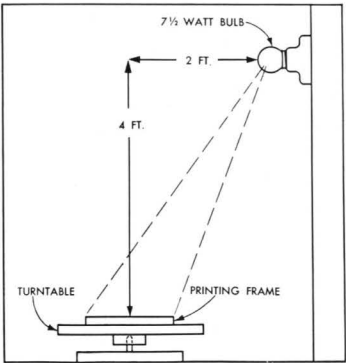

Figure 6—Arrangement of Exposing Light and Printing Frame for Exposure of Unsharp Positive
**Angle of Illumination:** The printing light is placed obliquely as illustrated in Figure 6. This arrangement, in conjunction with the separation between the two emulsions, produces the proper degree of unsharpness in the positive. The light itself is an ordinary  $7\frac{1}{2}$ -watt frosted bulb used without any reflector or housing. *The bulb must be placed at the correct angle* with respect to the center of the printing frame; the proper ratio of the horizontal distance to the vertical distance is 1 to 2. The distances shown in the diagram can be increased or decreased to suit individual requirements, providing their ratio is maintained. However, the horizontal distance should in no case be less than the length of the diagonal of the negative. If the distances are too short, the image in the positive will be too large, and it will not be possible to register it properly with the negative.
to rotate the frame; the only requirement is that, for best results, it must make at least one revolution per second. The arrangement shown in Figure 6, consisting of a stationary wooden peg and a rotating wooden platform, is very simple to set up. If desired, it can be refined by the addition of a ball bearing between the peg and the platform. The turntable of a discarded phonograph is also a suitable support for the printing frame.
**Exposure Time:** The exposure time should be adjusted to give a low-density background, so that even the lightest details of the original are perceptible on the developed positive. The density range of the positive should be one-third to one-half that of the negative. Under these conditions, the appearance of the developed positive will be similar to that of Figure 4, and the exposure will be 5 to 20 seconds at the distances shown in Figure 6.